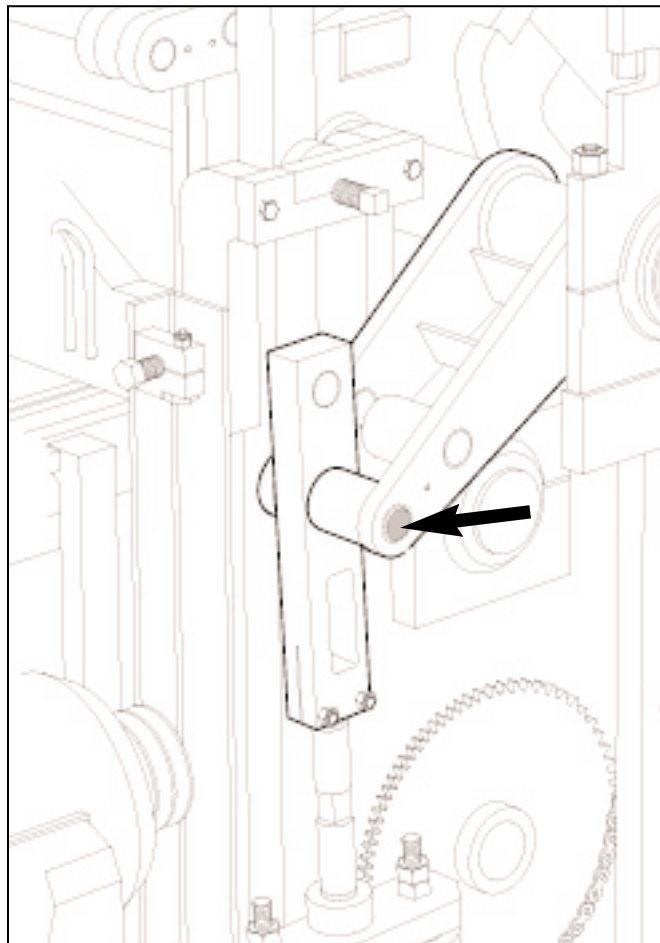

Figure 4.37 POSITIONING PINS IN OUTER HOLES.
- 4.3.13 Position the pins in the outer holes of the pallet receiver shaft arms (see figure 4.37).